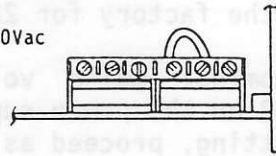

Figure 2.1.2 AC/DC version
- Change connections on A10A2 as appropriate in accordance with Figure 2.1.1 for the AC only version and Figure 2.1.2 for the AC/DC version.